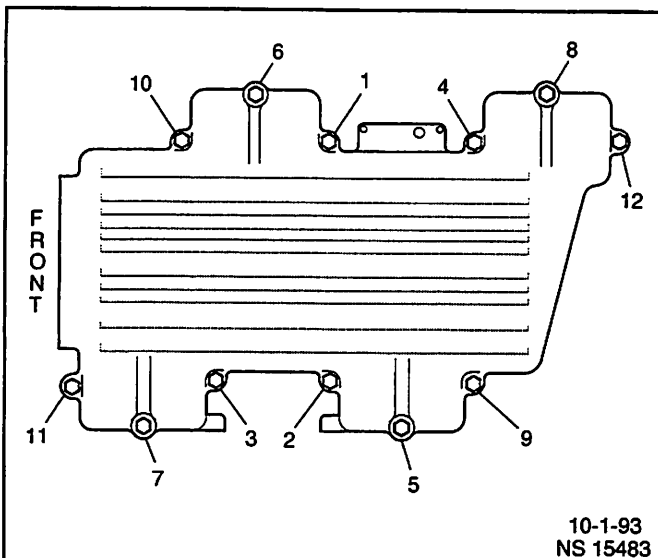

Figure 3-14 - Intake Plenum Tightening Sequence
4. All plenum retaining bolts. Torque to 14 N•m (124 lb.in.) in sequence as shown in Figure 3-14.